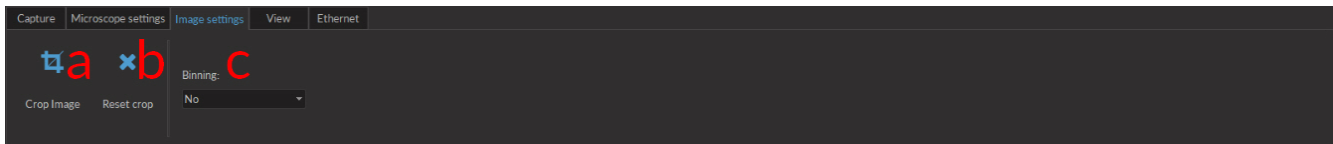

Figure 3.23: Image Settings Tab
4. The **Image settings** tab (Fig. 3.23) is used to define certain settings related to the displayed and recorded images.
- a) The **Crop Image** button (Fig. 3.23) allows a square to be drawn onto the image. When a new **Capture** sequence is activated, only the cropped region will be captured.
- b) The **Reset crop** button (Fig. 3.23) resets the cropped image to its original state. The change will only appear when a new **Capture** sequence is activated.
- c) The **Binning** drop-down list (Fig. 3.23) allows the binning of pixels. This reduces the number of pixels for smaller save file sizes.